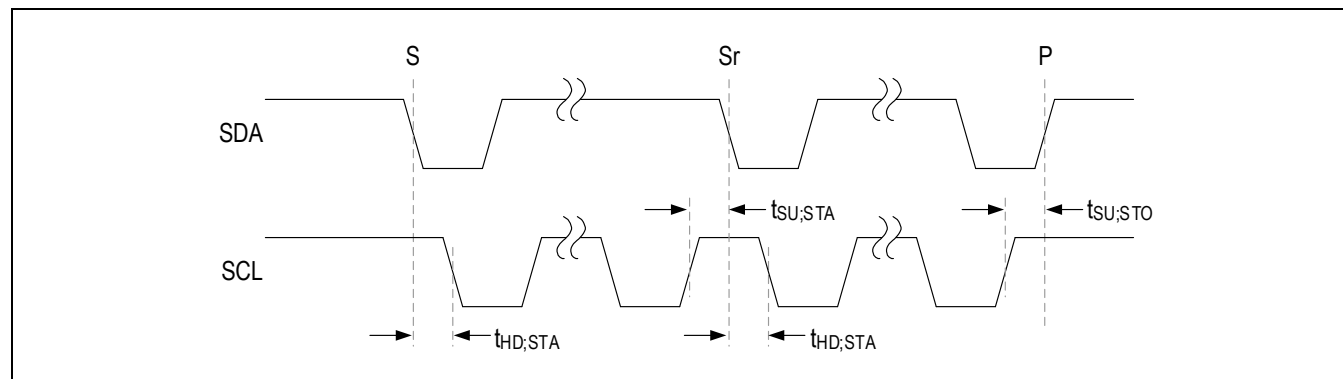

Figure 8. START, STOP, and REPEATED START Conditions
SDA and SCL facilitate communication between the device and the controller at clock rates up to 400kHz. The controller, typically a microcontroller, generates SCL and initiates data transfer on the bus. Figure 8 shows the two-wire interface timing diagram.
A controller device initiates communication by issuing a START condition. A START condition is a high-to-low transition on SDA with SCL high. A STOP condition is a low-to-high transition on SDA while SCL is high (Figure 8). A START (S) condition from the controller signals the beginning of a transmission to the device. The controller terminates transmission and frees the bus by issuing a STOP (P) condition. The bus remains active if a REPEATED START (Sr) condition is generated instead of a STOP condition.